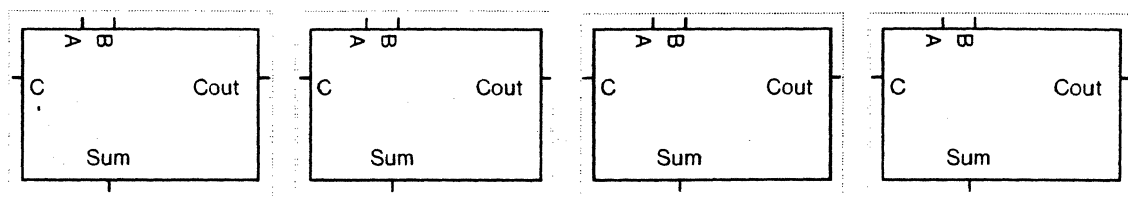

Figure 6c: The expanded fourBitAdder -- four copies of the oneBitAdder with no additional hierarchical semantics.
3. Answer the Terminal Viewer prompt for the number of repetitions you want, "4" (CR). ChipNDale creates a new cell which contains the four instances of the oneBitAdder icon. Logically, these four oneBitAdders are at the same descriptive level. The gray rectangle enclosing the four instances in Figure 6b indicates this. Any additions would be at the next higher level of the cell hierarchy: however, the connections between the carry bits of the individual should be at the same level of the hierarchy as the adder icons. To flatten the hierarchy, push into the cell and select the *expand* option. This flattens the cell, leaving four instances of the original oneBitAdder icon. (See Figure 6c.)